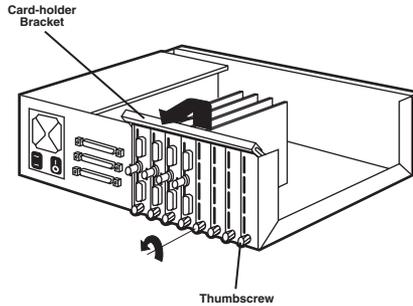

Figure 4-4. Card-Holder Bracket.
5. Lift the card-holder bracket from the top of the Ethernet cards and place it toward the back of the unit. See Figure 4-4.